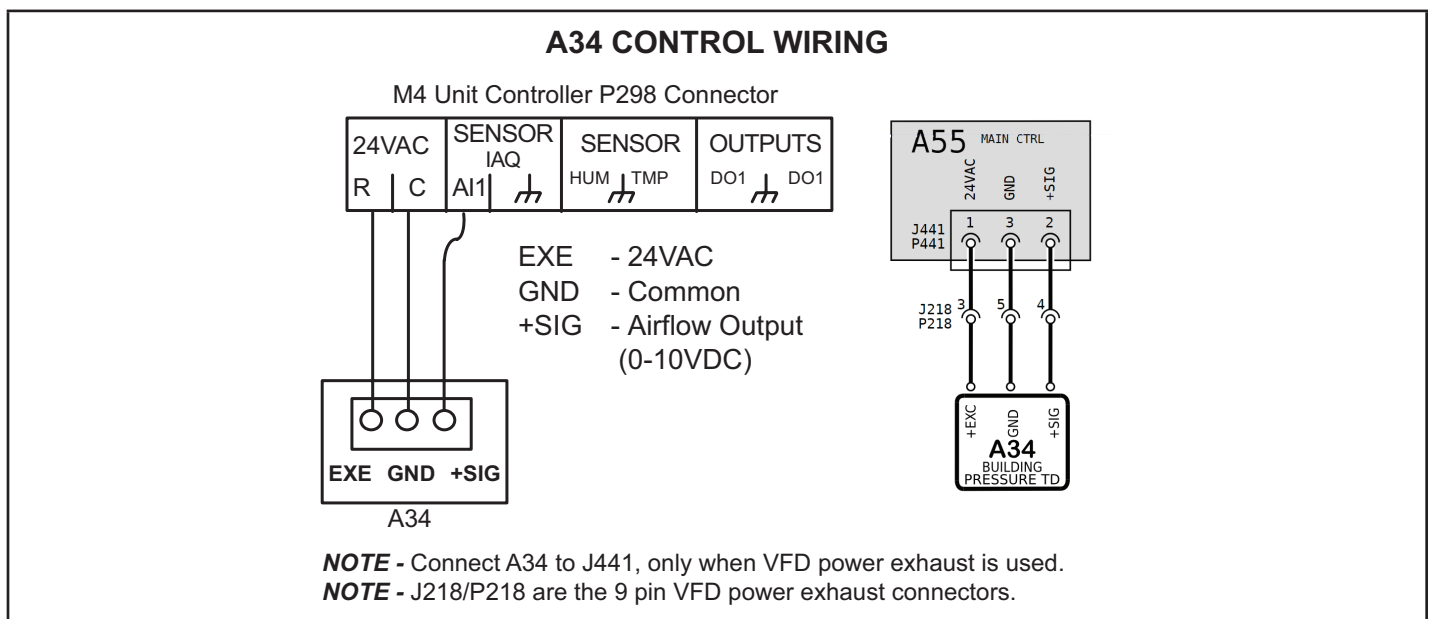

FIGURE 4
- 4 - Remove the A34 sensor cover and connect field-provided three-wire cable (22AWG) as shown in FIGURE 4. Use an approximately 4-foot length of cable for 092-152 units and 10-foot length of cable for 156-360 units.